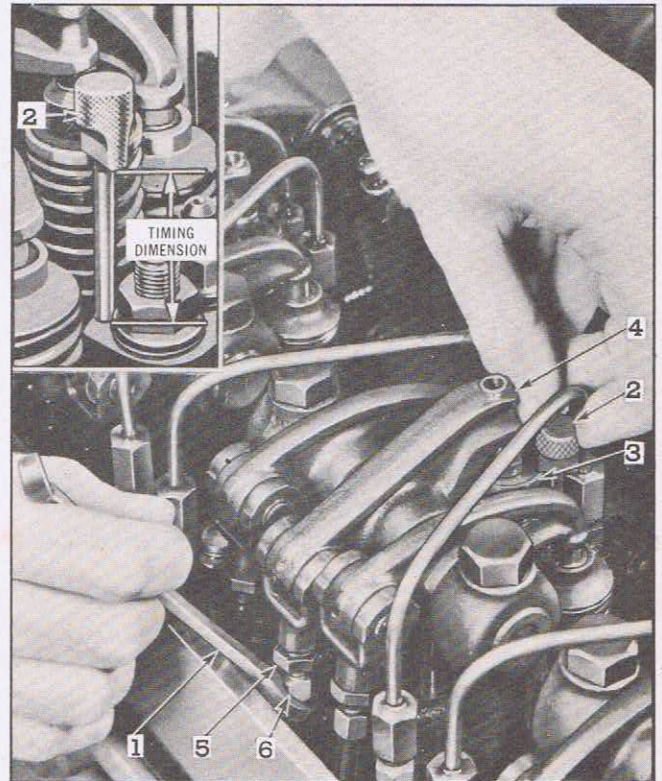

FIG. 1—TIMING FUEL INJECTORS
5. As illustrated in Fig. 1, adjust the position of the injector rocker arm (4) by means of the threaded adjustment on the upper end of the push rod (6)